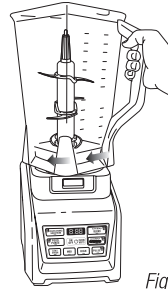

Fig. 3
- 6 Rotate the pitcher clockwise until it locks in place, you will hear a click when the lock is engaged. **(Fig. 3)**